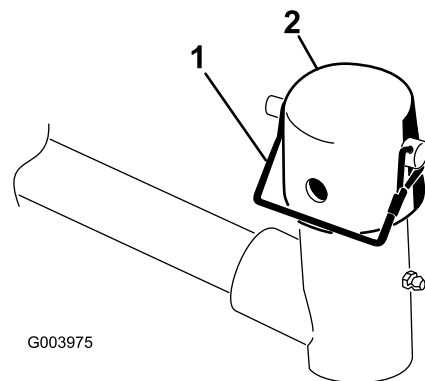

Figure 7
6. Remove the lynch pin from the lift arm pivot yoke. Then, remove the cap (Figure 7).
10. Secure the cap and the carrier-frame shaft to the lift-arm yoke with the snapper pin (Figure 7).